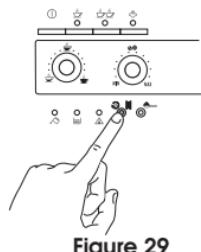

Figure 29
- Press and hold the  button for at least 5 seconds (Figure 29). The button will illuminate to indicate the start of the decalcification process (the  and  lights remain off to indicate that it is not possible to make espresso / coffee).